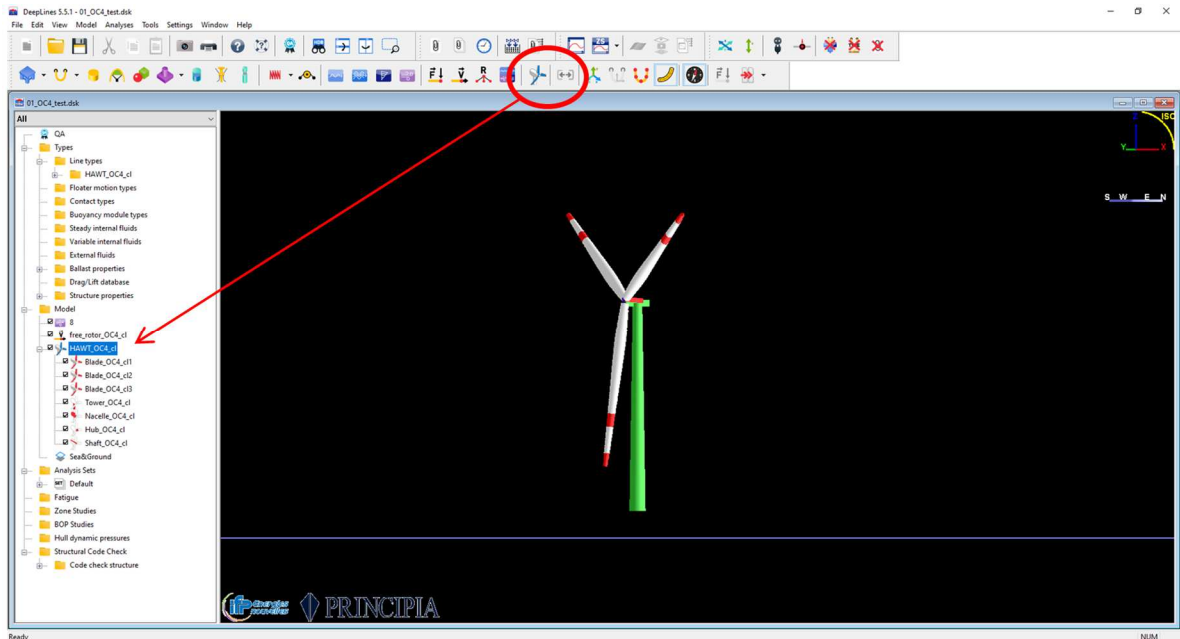

Figure 2-1 : Example of Wind turbine in DeepLines Wind
When a turbine is defined in DeepLines Wind, a specific icon is used as shown on Figure 2-1. Clicking on this icon induces the following process:
- A generic definition panel for a HAWT is open (see Figure 2-1);